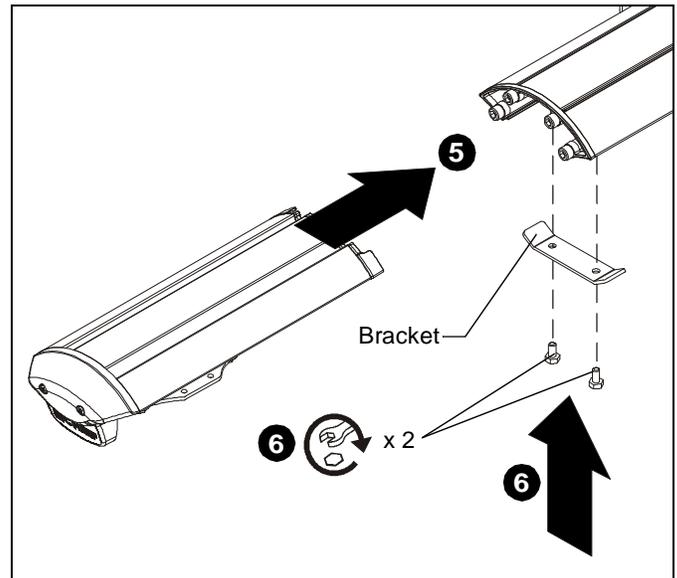

Figure 3
5. Reinstall inner telescoping extrusion. (See Figure 3)
6. Reinstall bracket and fasten with two hex head bolts removed in Step 2. (See Figure 3)